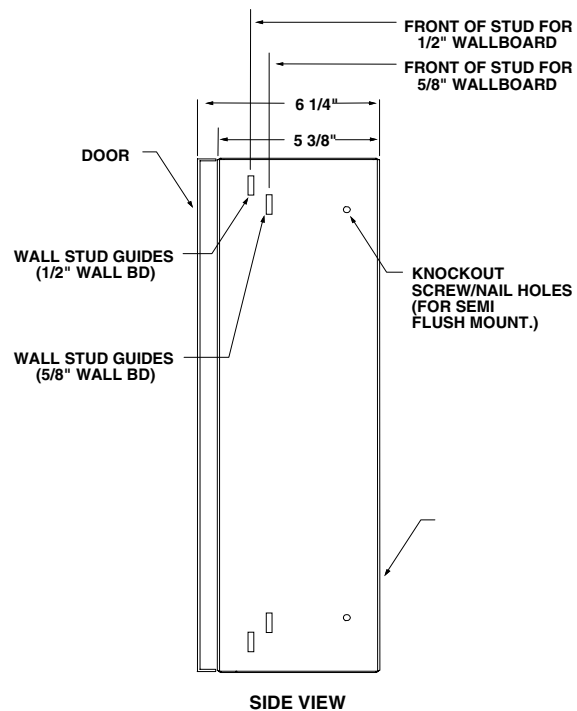

Figure 2-2. Wall Stud Guides
1. Remove the mounting knockouts from both sides of the back box. See Figure 2-2 for their location.